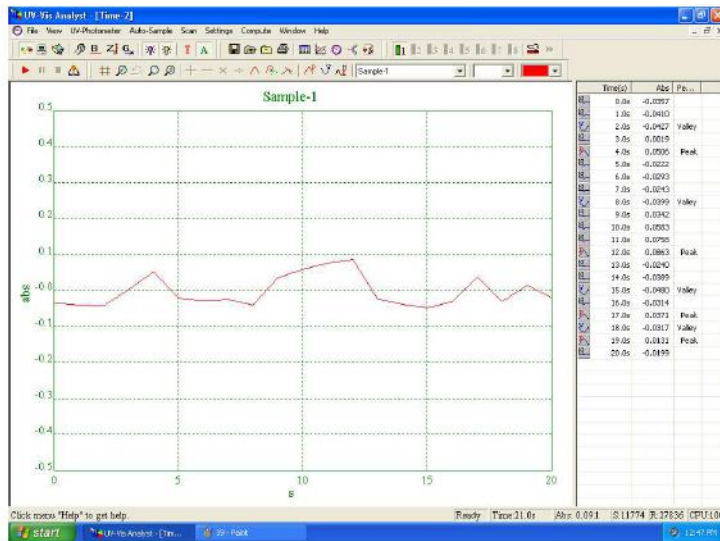

Fig. 4-40
9. Place a sample in the sample holder. Click  on the toolbar. The instrument will start scanning automatically. The graph will be displayed on the screen during time scanning (Fig 4-40). You can stop scanning by clicking .